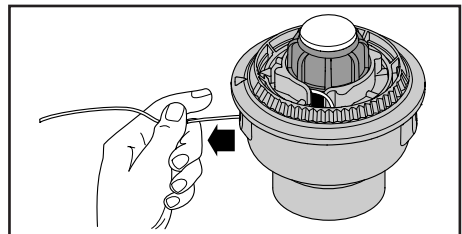

Fig. 13
4. Pull the line away from the spool until the line is tight against the inner reel (Fig. 13).